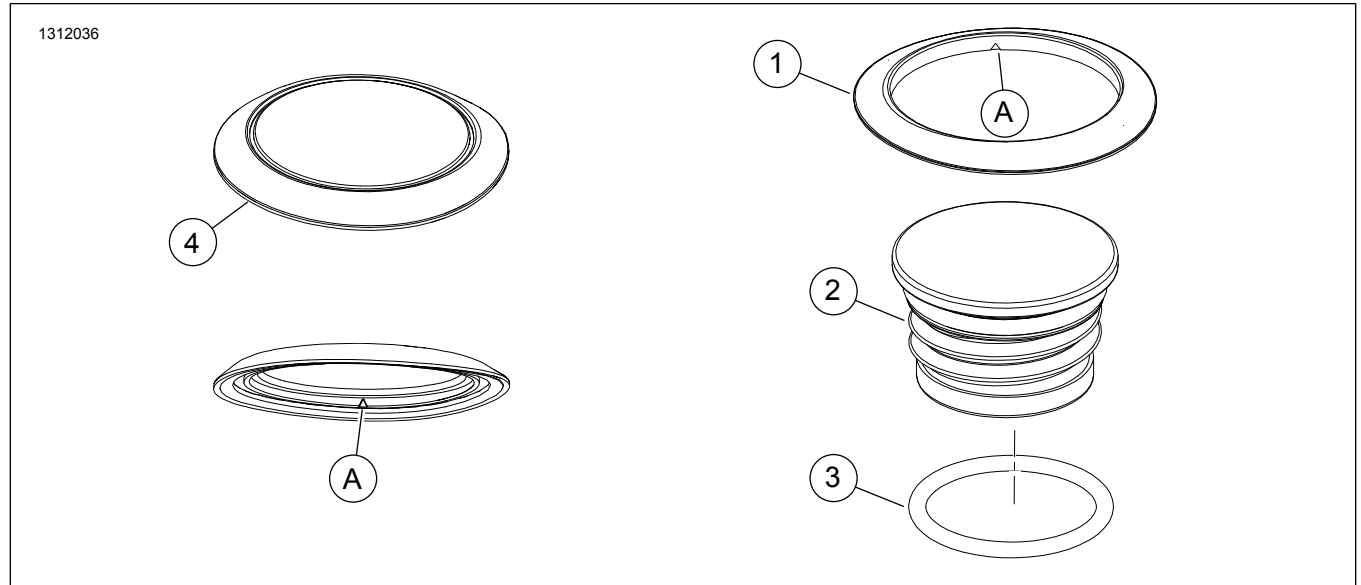

Figure 5. Service Parts: Flush-Mount Gas Cap Kit
See Figure 5 and Table 1.
6. See Figure 5. With the notch (A) positioned toward the front of the motorcycle, rotate trim ring slightly to determine best position of bottom trim ring against contour of the fuel tank.
4. See Figure 5. With the notch (A) positioned toward the front of the motorcycle, rotate faux cap slightly to determine best position of bottom against contour of the fuel tank.